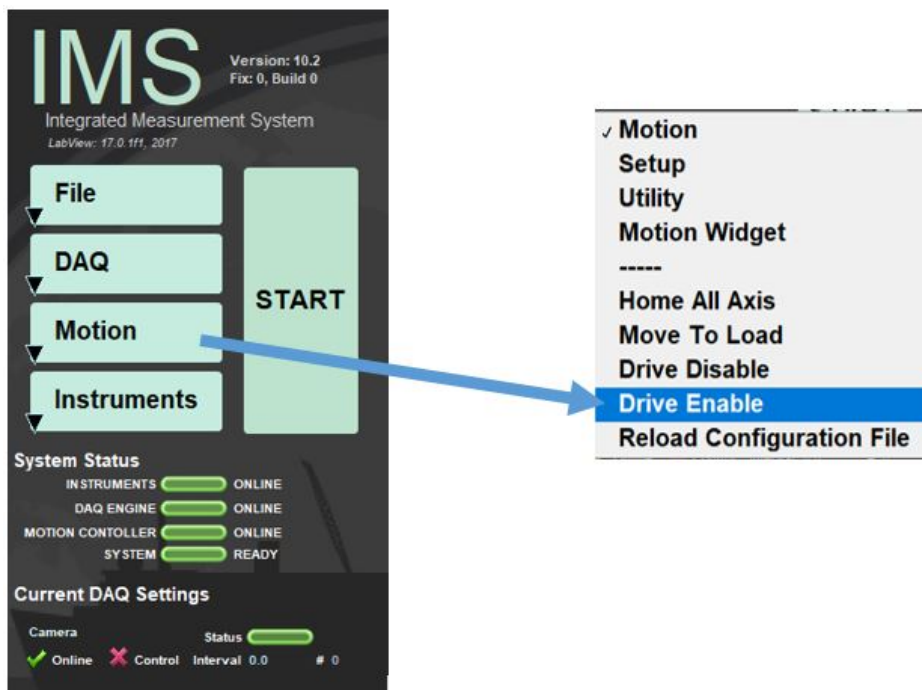

Figure 27. IMS commands to enable motor
2. In the main IMS Panel select Motion > Drive Enable to re-enable the motor (Figure 27).